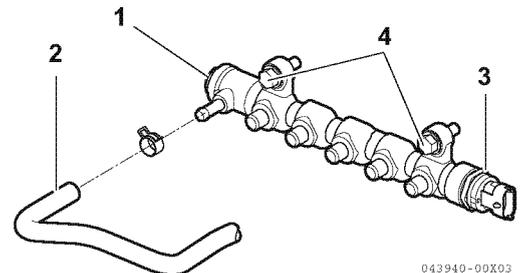

Figure 7-11
2. Remove the leak piping (2, Figure 7-11) from the pressure limiter (1, Figure 7-11).
3. Remove the wiring coupler of the pressure sensor (3, Figure 7-11).
Remove the 2 pieces of M8 (4, Figure 7-11) bolts that attach the common rail, and remove the rail body.